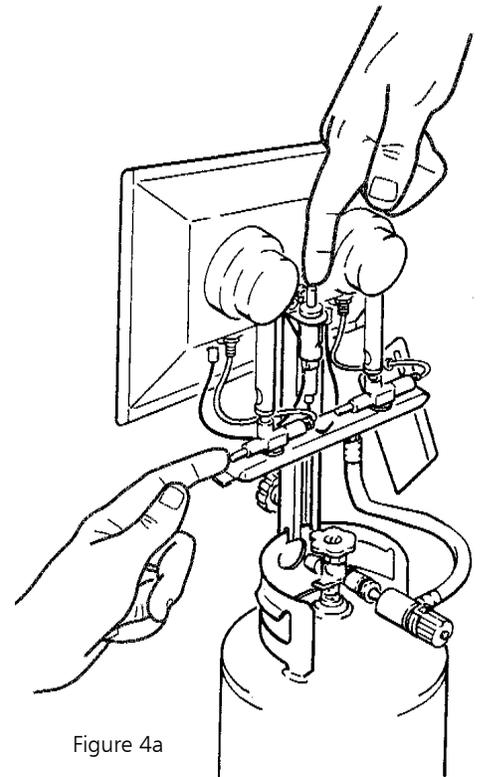

Figure 4a
- E. To light a burner, MH24TS Model, push in valve button on Safety Shutoff Valve and at the same time push down on "Sparklite" Igniter button. Repeat push down of "Sparklite" Igniter button until burner ignites. After burner is lit, continue to hold valve button in for 30 seconds, then release the button slowly. Repeat step "E" for each burner of the MH24TS Heater. See Fig. 4a.